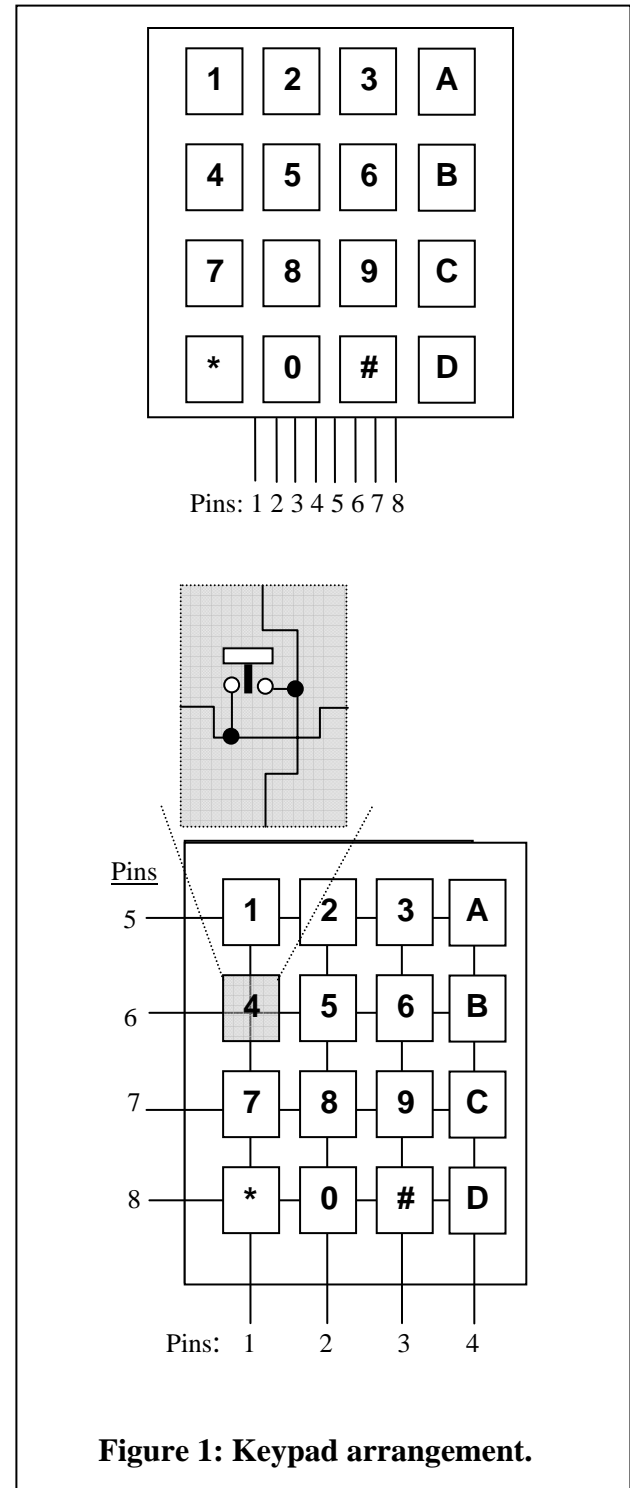
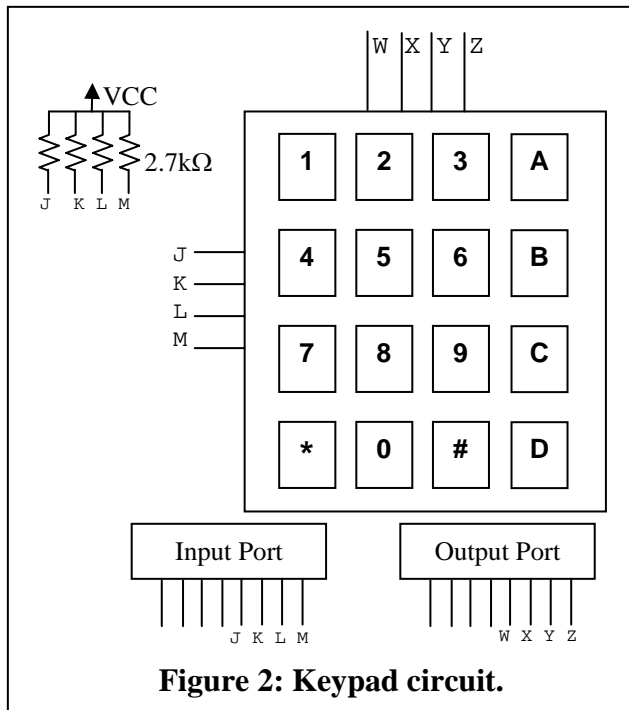

Figure 1: Keypad arrangement.
Figure 2: Keypad circuit.
The keypad included in your kit is similar to a phone keypad. See Figure 1 for a description of the keypad. Each key has two contacts, one attached to a “row” wire and the other attached to a “column” wire. When a key is pressed the column wire and row wires are connected (with a small resistance). There is no power supplied to the keypad except through inputs to the row or column wires. Figure 2 shows how the keypad is interfaced with a microprocessor’s port(s). A pull-up or pull-down resistor is used on either each row wire or each column wire. Please note that if you use a keypad different from the one supplied in this semester’s kit, the pinouts may change. (The pinouts can be easily determined with a multimeter set on resistance.)
The keypad is read by scanning it one column at a time (Figure 2). First, write a %0111 to the appropriate output port pins (columns), and then read the input port (rows). This puts a zero on only the first column of the keypad. If any of the keys in column 1 are pressed, the corresponding input bits will be zero. If a key is not pressed, that row bit will be pulled high by the pull-up resistor. The input port will only see the keys that have a zero voltage on their column pin. Next, write a %1011 to the output port pins (columns) to scan the second column. Continue by writing a %1101 then a %1110 to the output port pins to scan the third and fourth columns, respectively.
1. To implement the keypad interface, you need 4 input pins and 4 output pins. You can either use an 8-bit bi-directional port for the inputs and outputs or use only four bits of two separate ports. Do not use Port T, since this port will be needed for the next two labs along with the keypad. Wire up your keypad as described in Figure 2. Add the keypad connections to the schematics done in previous labs.